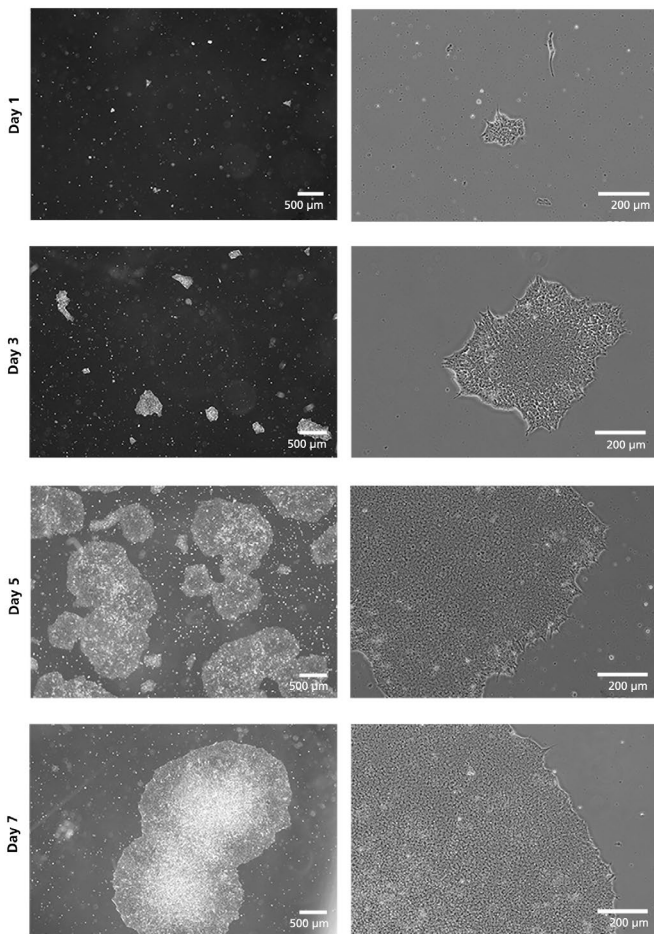

Figure 1. Recovery of SCTi003-A-1 hiPSCs on Days 1 - 7 After Thaw.
13. Perform medium changes as desired using mTeSR™ Plus and visually assess cultures daily to monitor growth and morphology. See Figure 1 for expected growth characteristics during the first seven days after thawing. Medium can be changed daily, every other day, or up to two consecutive days of feeding can be skipped when using mTeSR™ Plus. To skip two consecutive days of feeding, add twice the volume of medium.